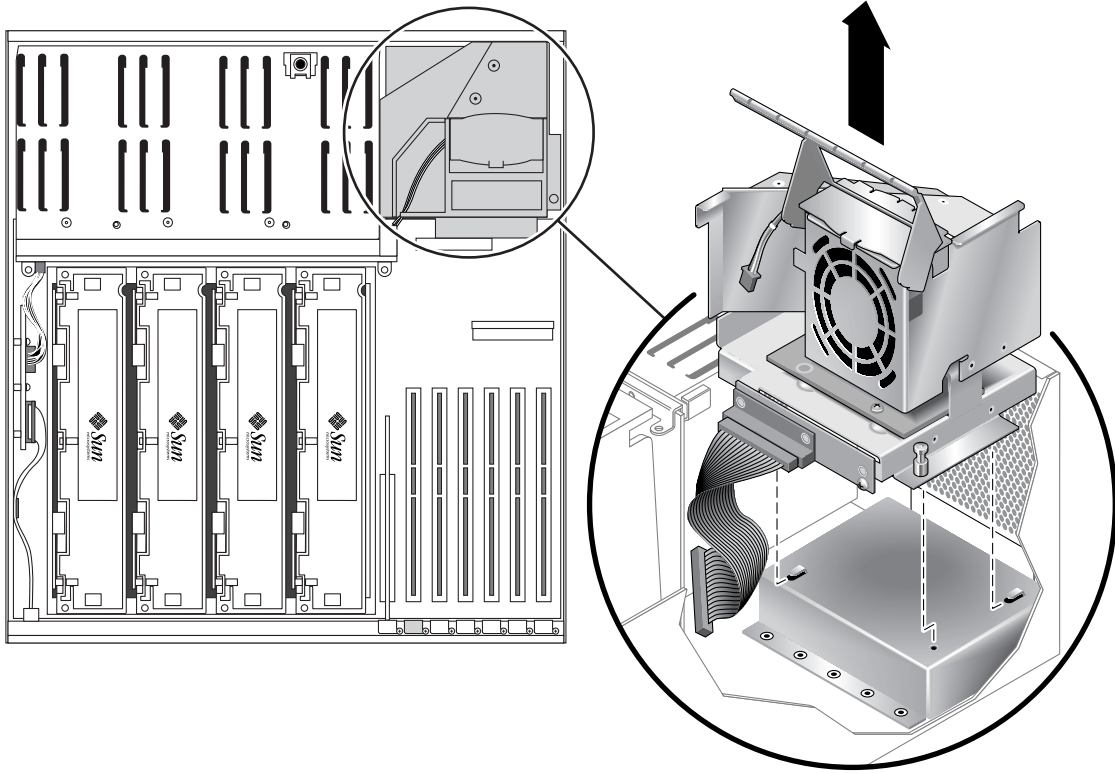

FIGURE 4-10 Removing the Fan Tray 3 Assembly
- Slide the fan tray 3 assembly to the rear of the system to disengage it and lift it up to remove it from the system (FIGURE 4-10).
4. Insert the fan tray 3 assembly into the system (FIGURE 4-10).